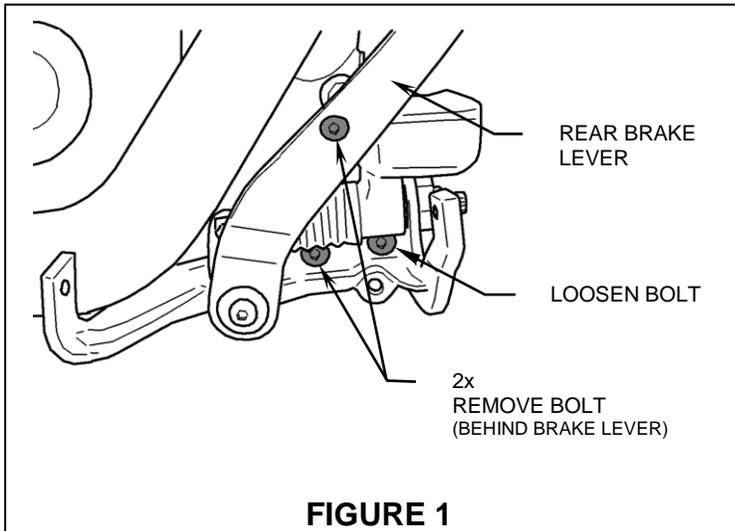

FIGURE 1
1. Unplug O₂ sensors on front and rear headpipes from motorcycle wire harnesses. Remove stock exhaust system. On FLSTC, FLSTN, FLSTF, and FXSTSC, remove the right floorboard. Remove the two floorboard mounting bracket bolts leaving the third in place but loosen and rotate mount down out of the way, (See Figure 1.) This will make installation of exhaust and heatshields possible.